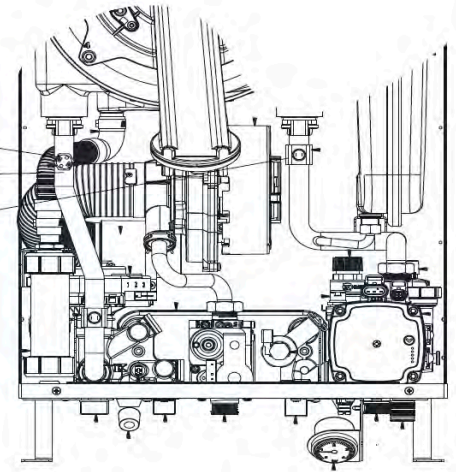

Fig.48
8.19 TO REMOVE/REPLACE C.H. FLOW AND RETURN SENSORS (Fig. 48)